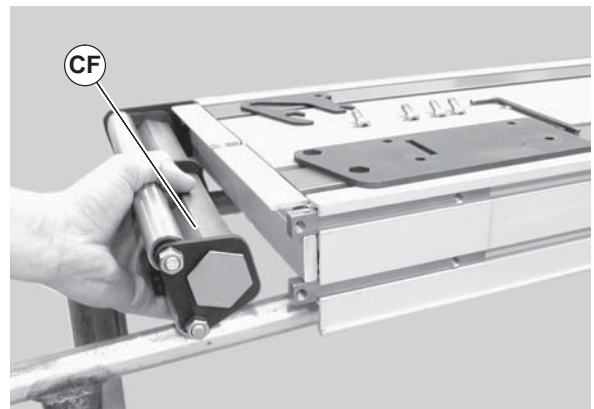

Figure 68
4. Slide the transfer tail pulley assembly (Figure 68, item CF) out of the headplate on the opposite side.